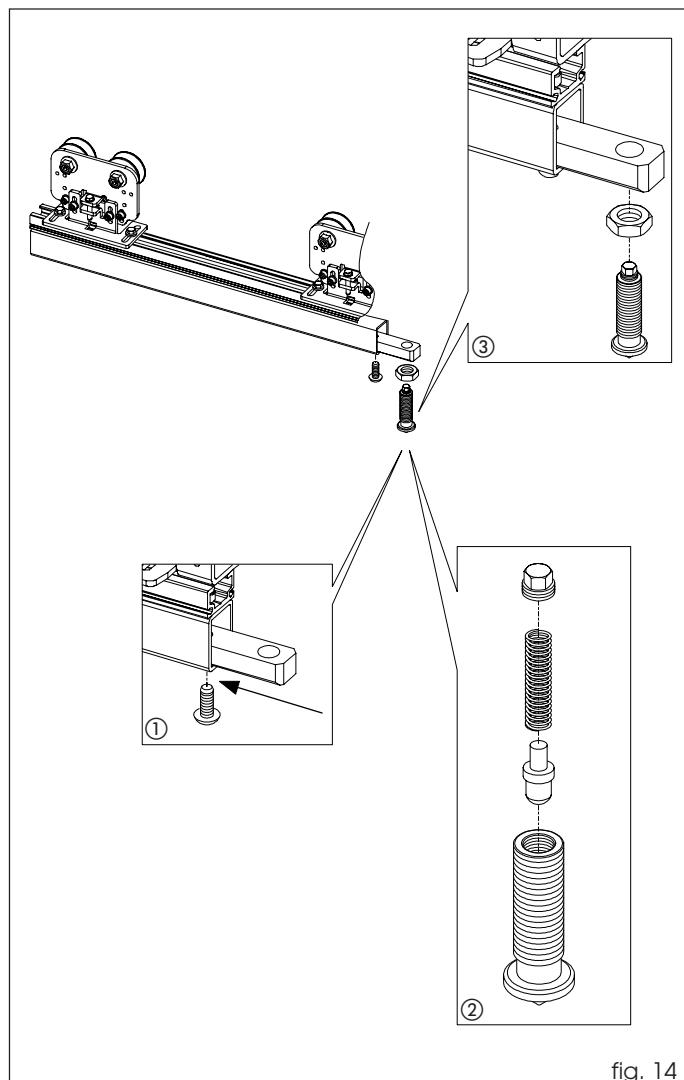

fig. 14
Fit the support bracket of the panic release unit on the rod and secure it using the supplied screw (fig. 14 ref. ①). Assemble the release unit (fig. 14 ref. ②). Fit the release unit on the support bracket, using the supplied nut as shown in fig. 14 ref. ③.